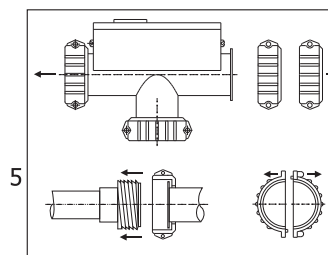

Fig.5
- 2.5 Heater installation:(Fig.5)